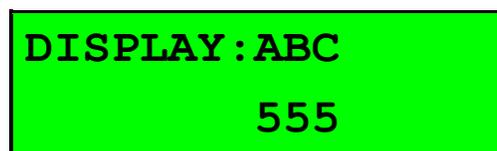

Figure 22 — Display Selection Screen
- (3) Referring to Figure 22, press <F1> again and the display selection screen will appear (depending of your current settings, different values may be shown).
- (4) Press the number of sign to be changed. Note that the numeric choices are equivalent to the alphabetical choices, so that, in this example 1 = (A-front sign), 2 = (B-side sign), 3 = (C-rear sign, etc.). The choices of your own particular system may be different from what is shown in Figure 22 and Figure 23. In Figure 22 the signs are A, B, and C and the corresponding existing values in this example are each "5" (the values are vertically below each sign letter designation).